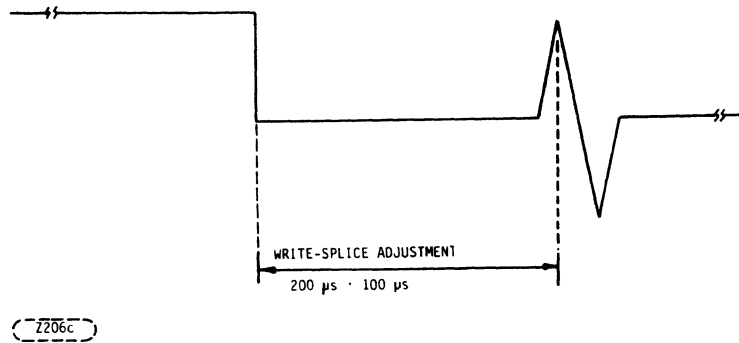
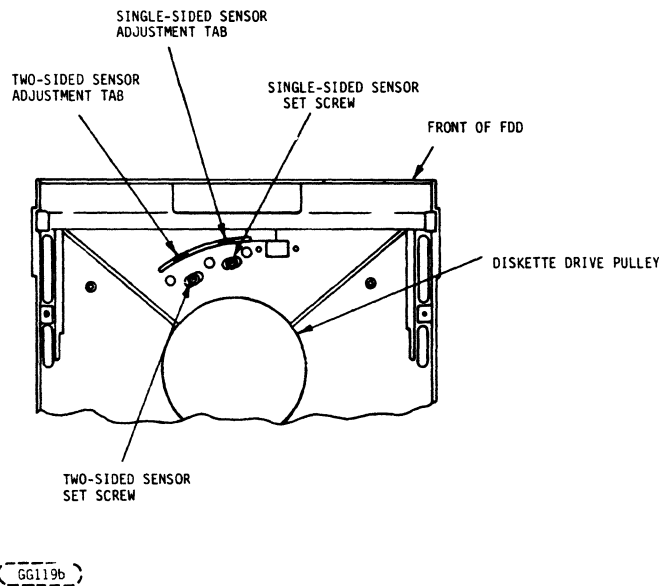

FIGURE 6-4A. WRITE-SPLICE-TIMING
FIGURE 6-4B. SINGLE-AND TWO-SIDED SENSOR ADJUSTMENT MEANS
- e. Adjust the time of the write-splice bit until it measures per  $200 \mu s \pm 100 \mu s$ . Refer to Figure 6-4a to adjust the time, loosen the single-sided sensor set screw holding the (single-sided-sensor) phototransistor located on the bottom of the chassis toward the front of the unit, (Figure 6-4b). Using the adjustment tab protruding through the casting, move the phototransistor until the specification is met. Tighten the set screw while observing the scope signal. Verify that the adjustment did not change.